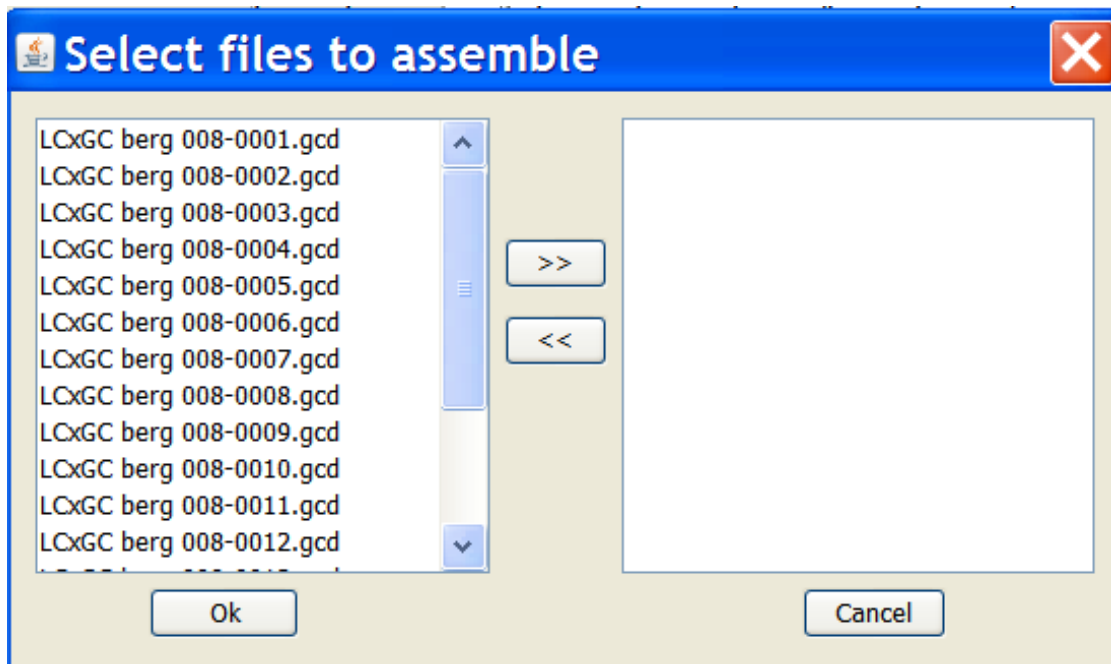

Figure 11.19: List of the files to assemble
3. A new window (**Select files to assemble**) with two panes will be shown. The *left* pane will contain the *list of all the files having similar names* and ending with different sequence numbers; the right pane will contain the files that the user wants to assemble. See Figure 11.19.